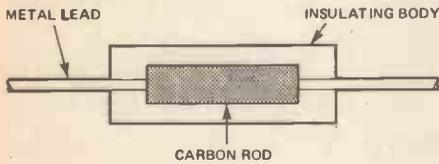

Figure 2. Make-up of a solid carbon resistor.
- 1) solid carbon resistor (Figure 2). Graphite (a form of carbon) is compressed into a thin rod and metal leads are connected to each end. The rod and connections are encased in an insulating body.